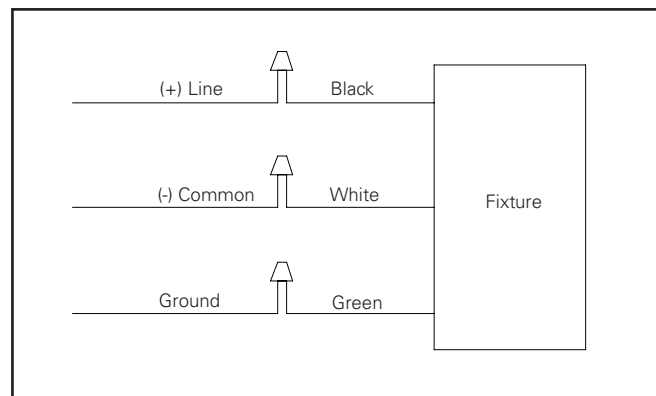
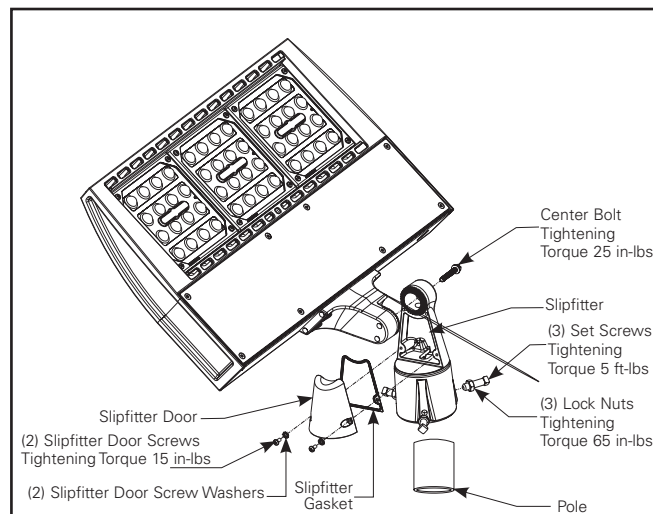

Figure 3.
Figure 6.
7. Make power connection as referenced in wiring diagram. (Figure 3).
4. Refer to wiring diagrams for power connection (Figure 3).
1. Remove (2) slipfitter cover screws to access splice compartment (Figure 6). Save hardware.
2. Loosen (3) set screws and slide the slipfitter onto pole or mounting bracket. Ensure incoming wires are passed through the slipfitter arm.
3. Position luminaire into the desired direction and tighten (3) set screws to 60 in-lbs.
4. Tighten (3) lock nuts to 65 in-lbs.
5. If needed to aid fixture direction and orientation, the (4) cap screws holding the fixture to the arms can be backed out and fixture facing orientation reversed. Ensure the (4) cap screws are replaced and tightened to 20 ft lb for 1 light square luminaires and 30 ft lb for 2-6 light square luminaires. This action if required, must be performed prior to making wire connections.
6. Make wiring connections per wiring diagram (Figure 3). Place connections into in splice compartment.
7. Replace slipfitter cover over splice compartment and tighten (2) cover screws to 15 in-lbs.